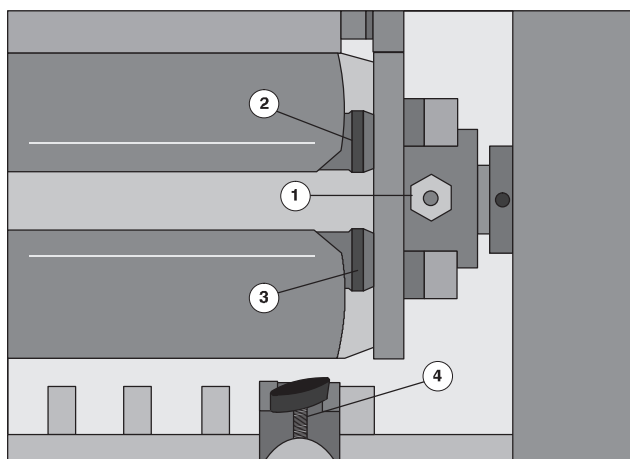

Fig. 28 Blanket clamp shafts
7. **Clamp the blanket by firmly turning** the hexagon-head screw (Fig. 28/1) clockwise with the socket wrench.
8. Align the forwarding rollers (Fig. 28/4) again corresponding to the sheet size; when moving, make sure the **forwarding rollers correctly engage**. Fix the forwarding rollers in place in the lock-in positions using the tommy bar screws.